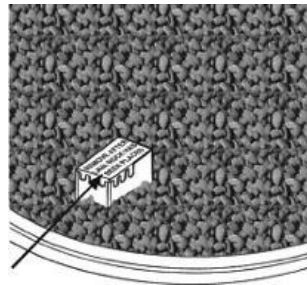

Figure 13
13. Remove the cardboard cover from the ignition well as shown in Fig.13.